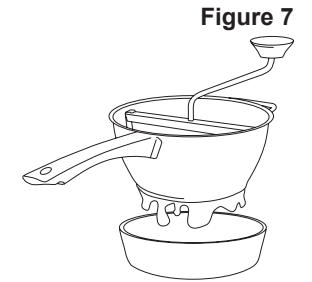

Figure 7
10. The mashed food will fall through the perforations and into the bowl (Figure 7). It may be necessary to scrape food off of the outside of the **Milling Disc** and into the bowl using a rubber spatula.